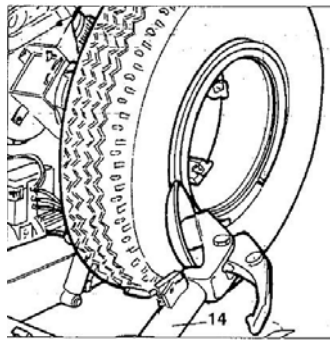

Fig.7.16
- 2) Lower the tool carrier arm (14, Fig.7.16) to its work position until it is locked in position by its hook.
- 3) Position the bead loosener disk level with the rim (See Fig.7.16).
- 7) Move the tool carrier arm (14, Fig.7.16) back from the edge of the rim. Release the hook and tip the arm to its non-working position.